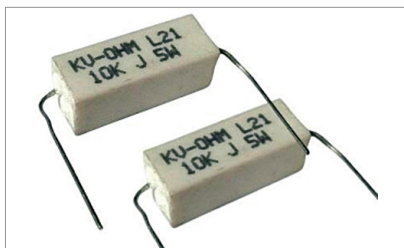

Fig. 4: Power resistors used as bleeder resistors
DC. A 4.7k Ω , 10W power resistor is generally adequate for this purpose. Initial tests used two 10k Ω ($\pm 5\%$), 5W ceramic-encased wire-wound resistors connected in parallel as the bleeder resistor (RD), and the setup performed reliably. Fig. 4 shows the resistors used for discharging.